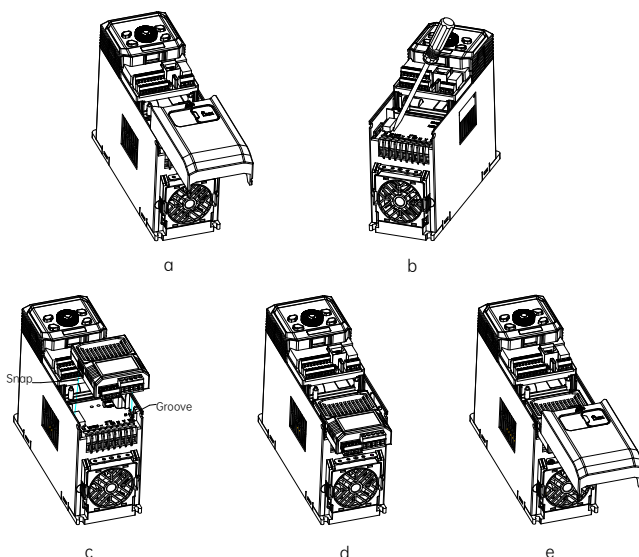

Fig. 4 Position 2 - IO option installation steps
- (1) When the drive is powered off, press the granulated part on the middle-upper of the lower cover, slide it down firmly to take down the cover, as shown in Fig. 4-a.
- (2) Use a straight screwdriver to pry open the dustproof cap, as shown in Fig. 4-b.
- (3) Install the IO option: hold the expansion box (with the IO card inside) upwards (terminals upwards), then align the expansion box with the electrical interface of position 2, and press down horizontally to buckle the spring snap of the expansion box into the groove at the lower part of the drive, as shown in Fig. 4-c and d.
- (4) The IO card is successfully installed, as shown in Fig. 4-e.